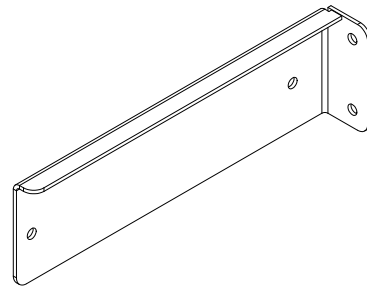
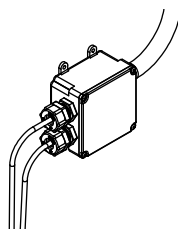

Figure 11
**Figure 13**
- b. An additional bracket to rotate storage bracket 90 degrees is required when distance between the door centerlines is less than 144". See Figure 11 and Figure 13.
- b. If mounting to additional bracket to rotate chock 90 degrees (optional). See Figure 11 and Figure 13.